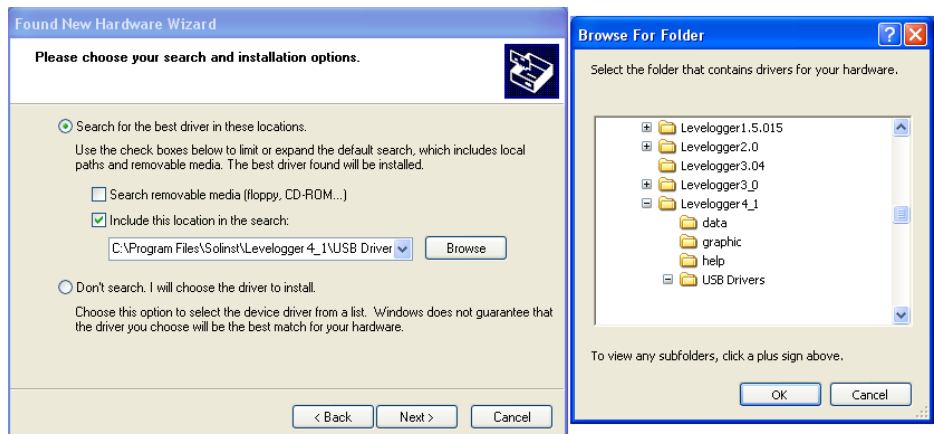

Figure 4-2 Found New Hardware Window and Figure 4-3 Browse for Folder Window
- 4) Select the installation option, 'Include this location in the search' (Figure 4-2), then click the 'Browse' button to search for the appropriate directory: